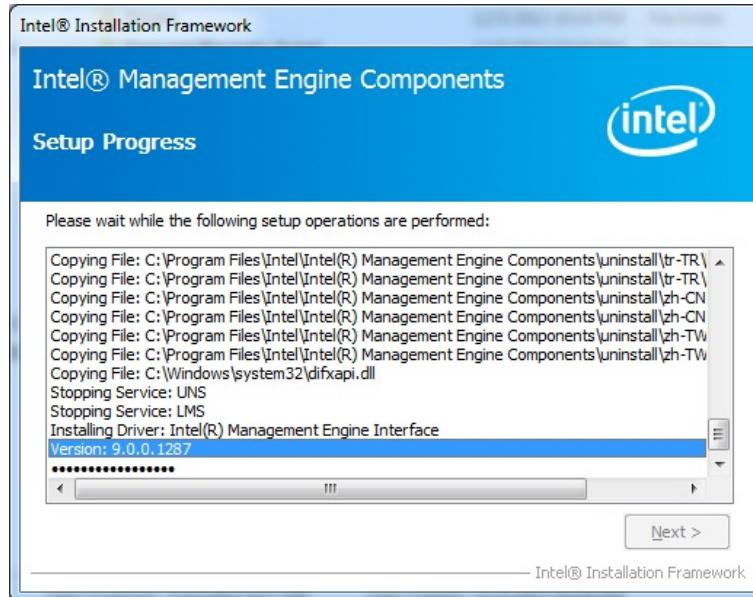

Figure 6-29: Intel® ME Driver Setup Operations
Step 9: Setup Operations are performed as shown in **Figure 6-29**.